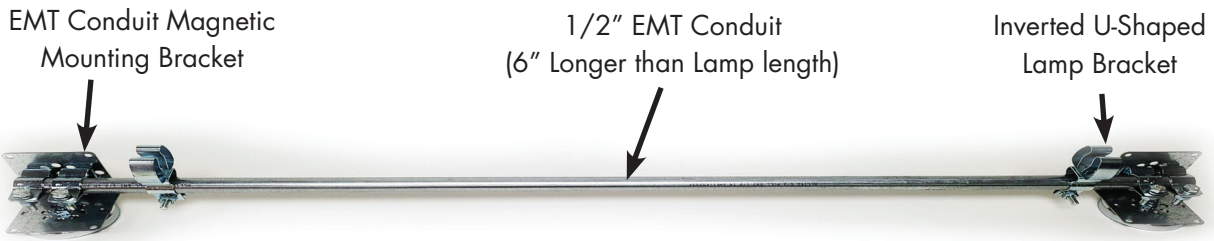

Figure 13: Single Lamp Support Rod Assembly for Single/Dual Lamp Models (Standard)
The Lamp Support Rod is supplied with magnetic foot mounts. The lamp support rod are available in several variations: (Reference Figures 13 through 20)
3. Lamp Support Kits Only – may contain mounting L brackets, lamp support brackets and magnetic disks with assembly hardware all shipped loose. Refer to optional lamp and 1/2" EMT conduit mounting accesories sections for additional information. The installer is responsible to supply the 1/2" EMT conduit, assemble and attach the mounting brackets and lamp support brackets to the EMT conduit (reference Figures 13, 14, 15, 16, 17, 18, 19 and 20) during installation.